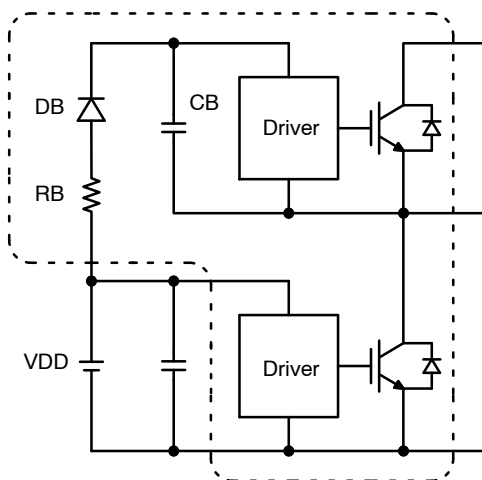

Figure 19. Bootstrap Circle
The VBx pins are internally connected to the positive supply of the high-side drivers. The supply needs to be floating and electrically isolated. The boot-strap circuit shown in Figure 19 forms this power supply individually for every phase. Due to integrated boot FET only an external boot capacitor (CB) is required.